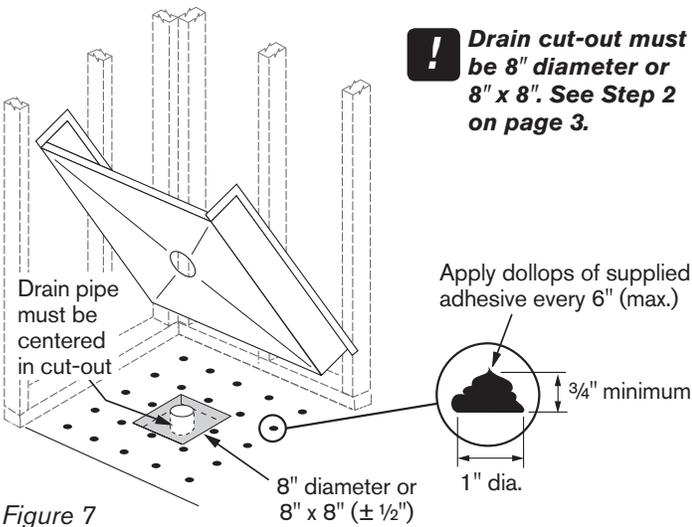

Figure 7
- 8 Place pan in pocket and prop it up while you apply supplied adhesive to the floor. Starting in a corner, apply 1" dia. x 3/4" tall dollops of supplied adhesive every 6". See below for an example of the epoxy pattern for a 63" x 37" shower. (Figures 7 and 8)